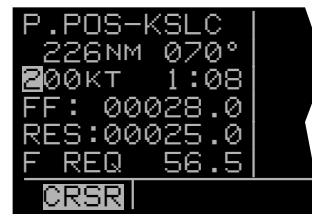

Figure 5-8
6. Press **ENT** again to acknowledge the waypoint page. The distance, bearing, and estimated time enroute are now displayed (figure 5-8).